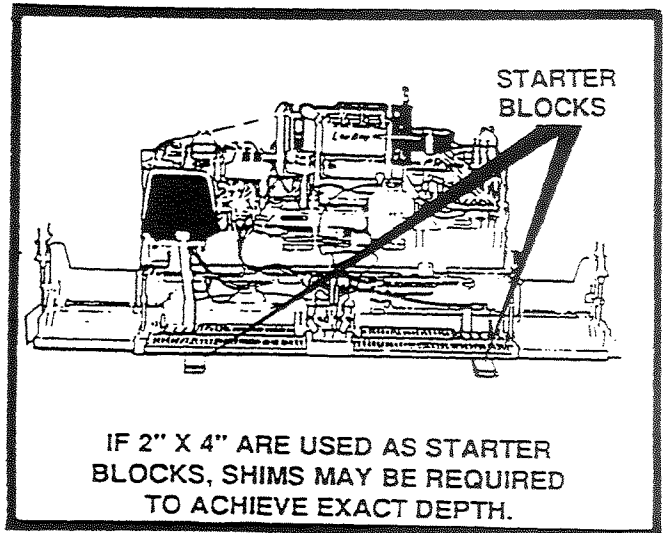

FIGURE 22
3. To get depth, set screed on starter blocks. See figure 22.